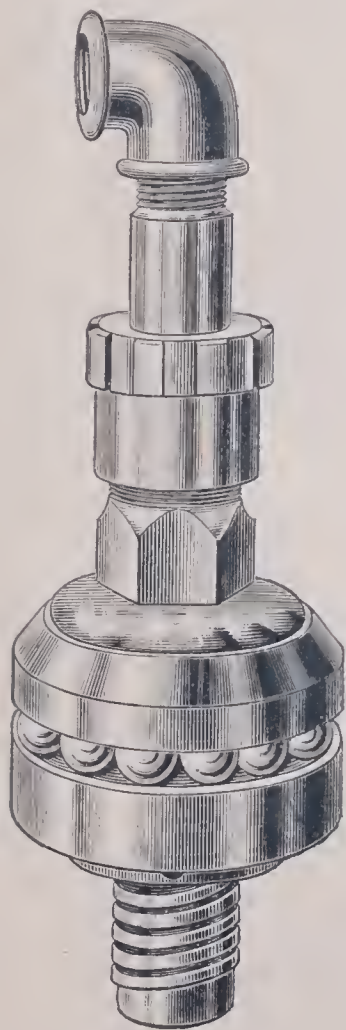

Fig. 15. Improved Water-Joint.
**IMPROVED WATER-JOINT.** Fig. 15 shows this tool, which allows the rods to be kept turning while lowering through mud or broken rock, with a stream of water passing through them as in drilling, and washing up the mud and bits of rock. The bale and clevis are attached as in the case of the ordinary water-joint, and do not turn with the rods, which hang on a friction ball roller bearing.